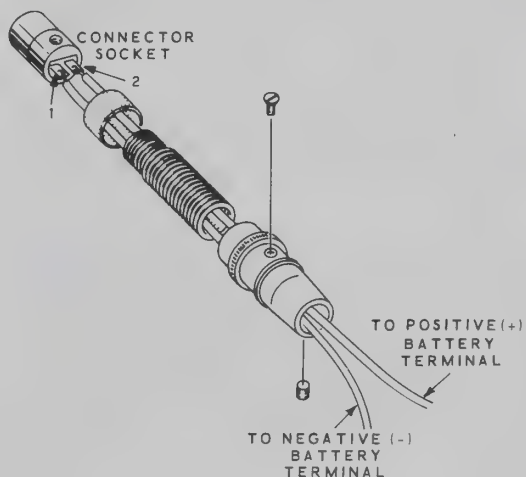

Figure 9
- () Connect two wires between the external battery terminals and a female cable connector (#432-62) as shown in Figure 9. Connect the negative (-) battery terminal to lug 1 and the positive (+) battery terminal to lug 2 of the connector socket.